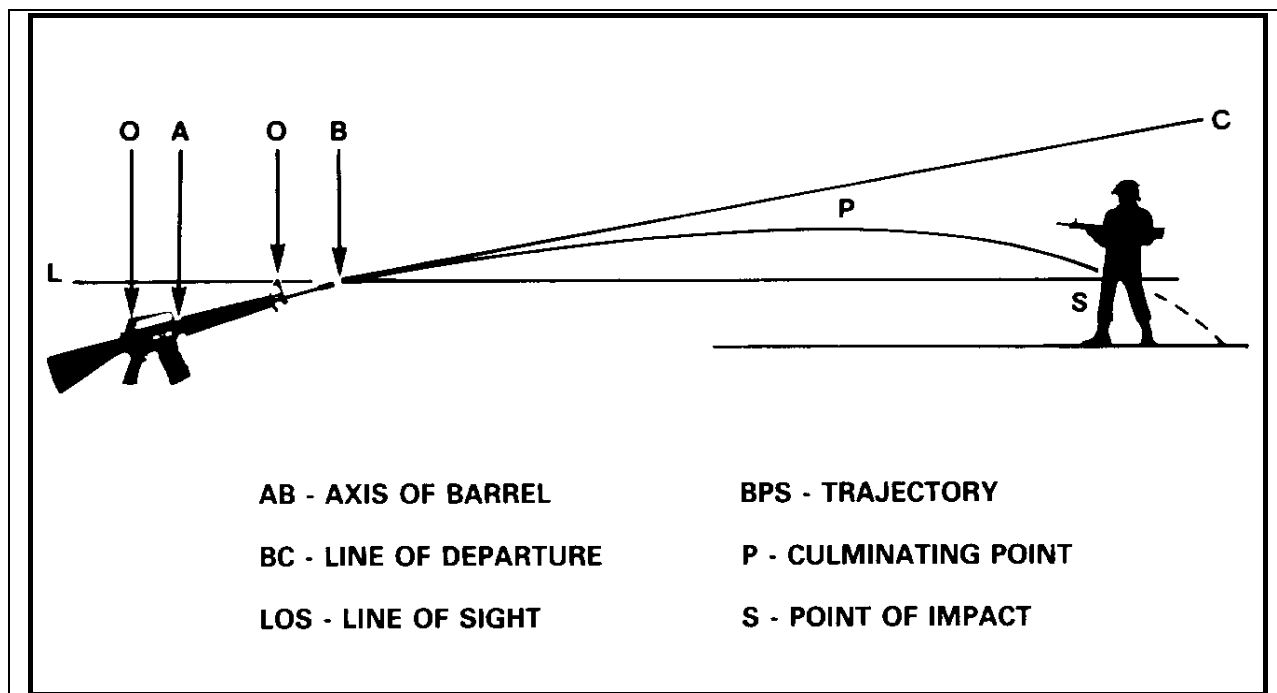

Figure 2-1 Theory of Small Arms Fire
7. **Review.** Review the following terms from the Theory of Small Arms Fire (see Figure 2-1):